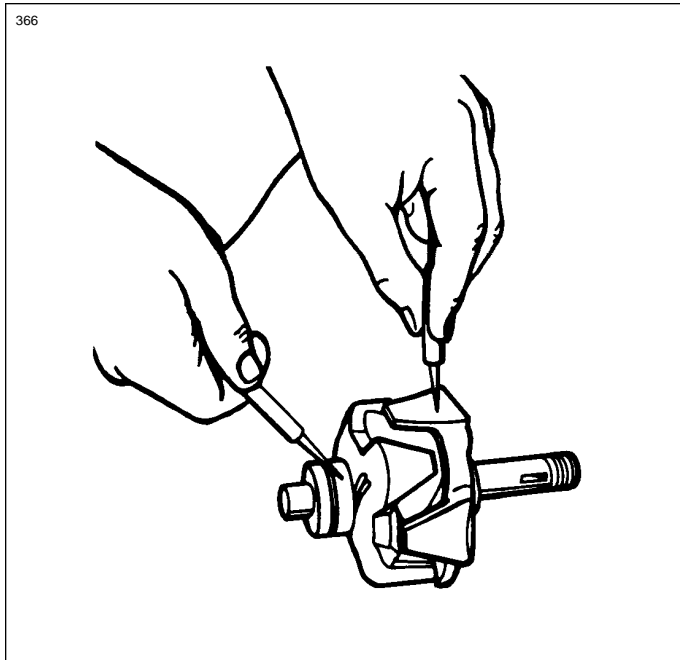
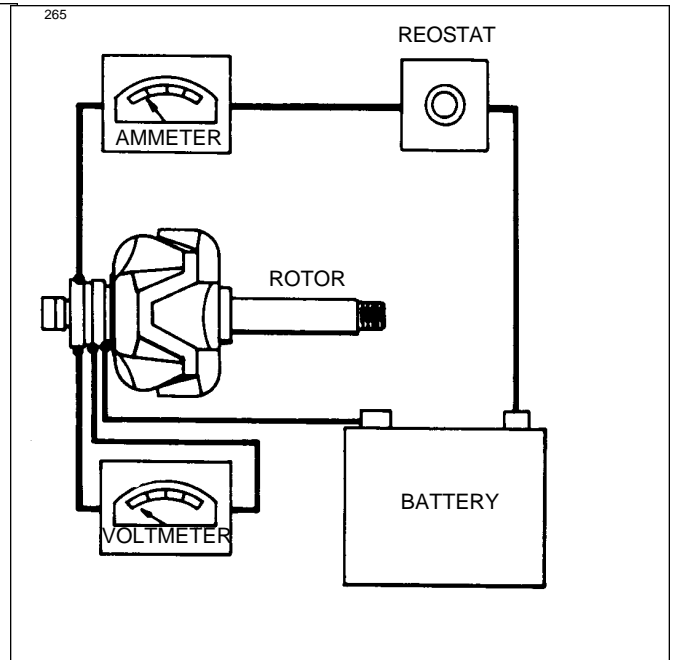

Figure 11-8 Testing Rotor for Grounds
Figure 11-9 Testing Rotor for Shorts
a. Rotor: The rotor should be tested for grounded or shorted windings. The ground test can be made with test probes, connected in series with a 110 volt test lamp, an ohmmeter or any type of continuity tester. (Refer to Figure 11-8). There must not be any continuity between the slip rings and the rotor shaft or poles. To test for shorted turns in the rotor winding, connect a voltmeter, ammeter and rheostat as shown in Figure 11-9, or use an ohmmeter. Rotor current draw and resistance are listed in Paragraph 11-16 and Table XI-II. Excessive current draw or a low ohmmeter reading indicates shorted windings. No current draw or an infinite ohmmeter reading would indicate an open winding.